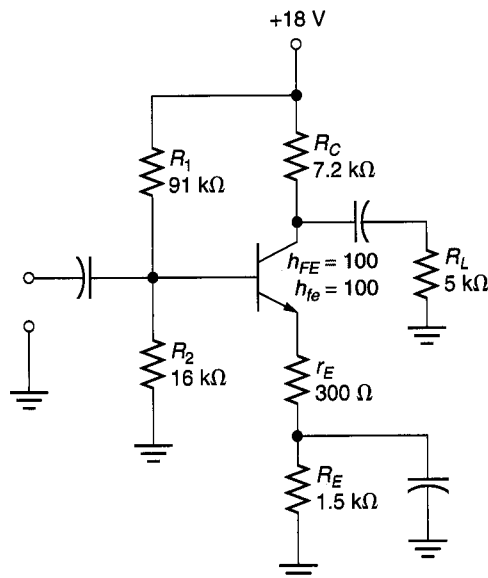

FIGURE 9.37
52. Determine the value of  $A_v$  for the amplifier in Figure 9.37.